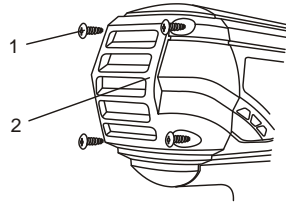

Fig. 6
1. Remove 4 screws (1) from the motor end cap (2) using a #2 \oplus screwdriver (Fig. 6).